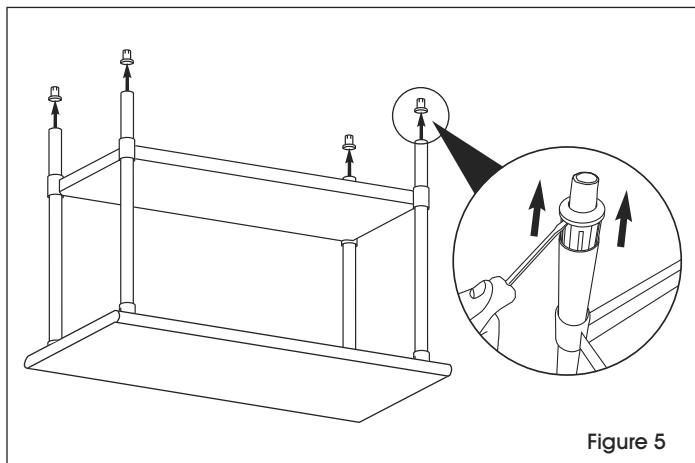

Figure 5
1. Flip the table back over onto a smooth, non-marring surface. Remove adjustable feet from tube legs using a flat head screwdriver. (See Figure 5)